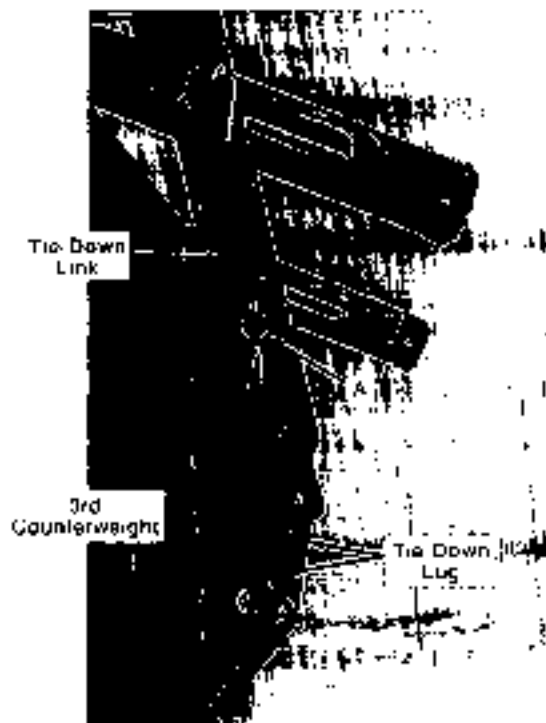
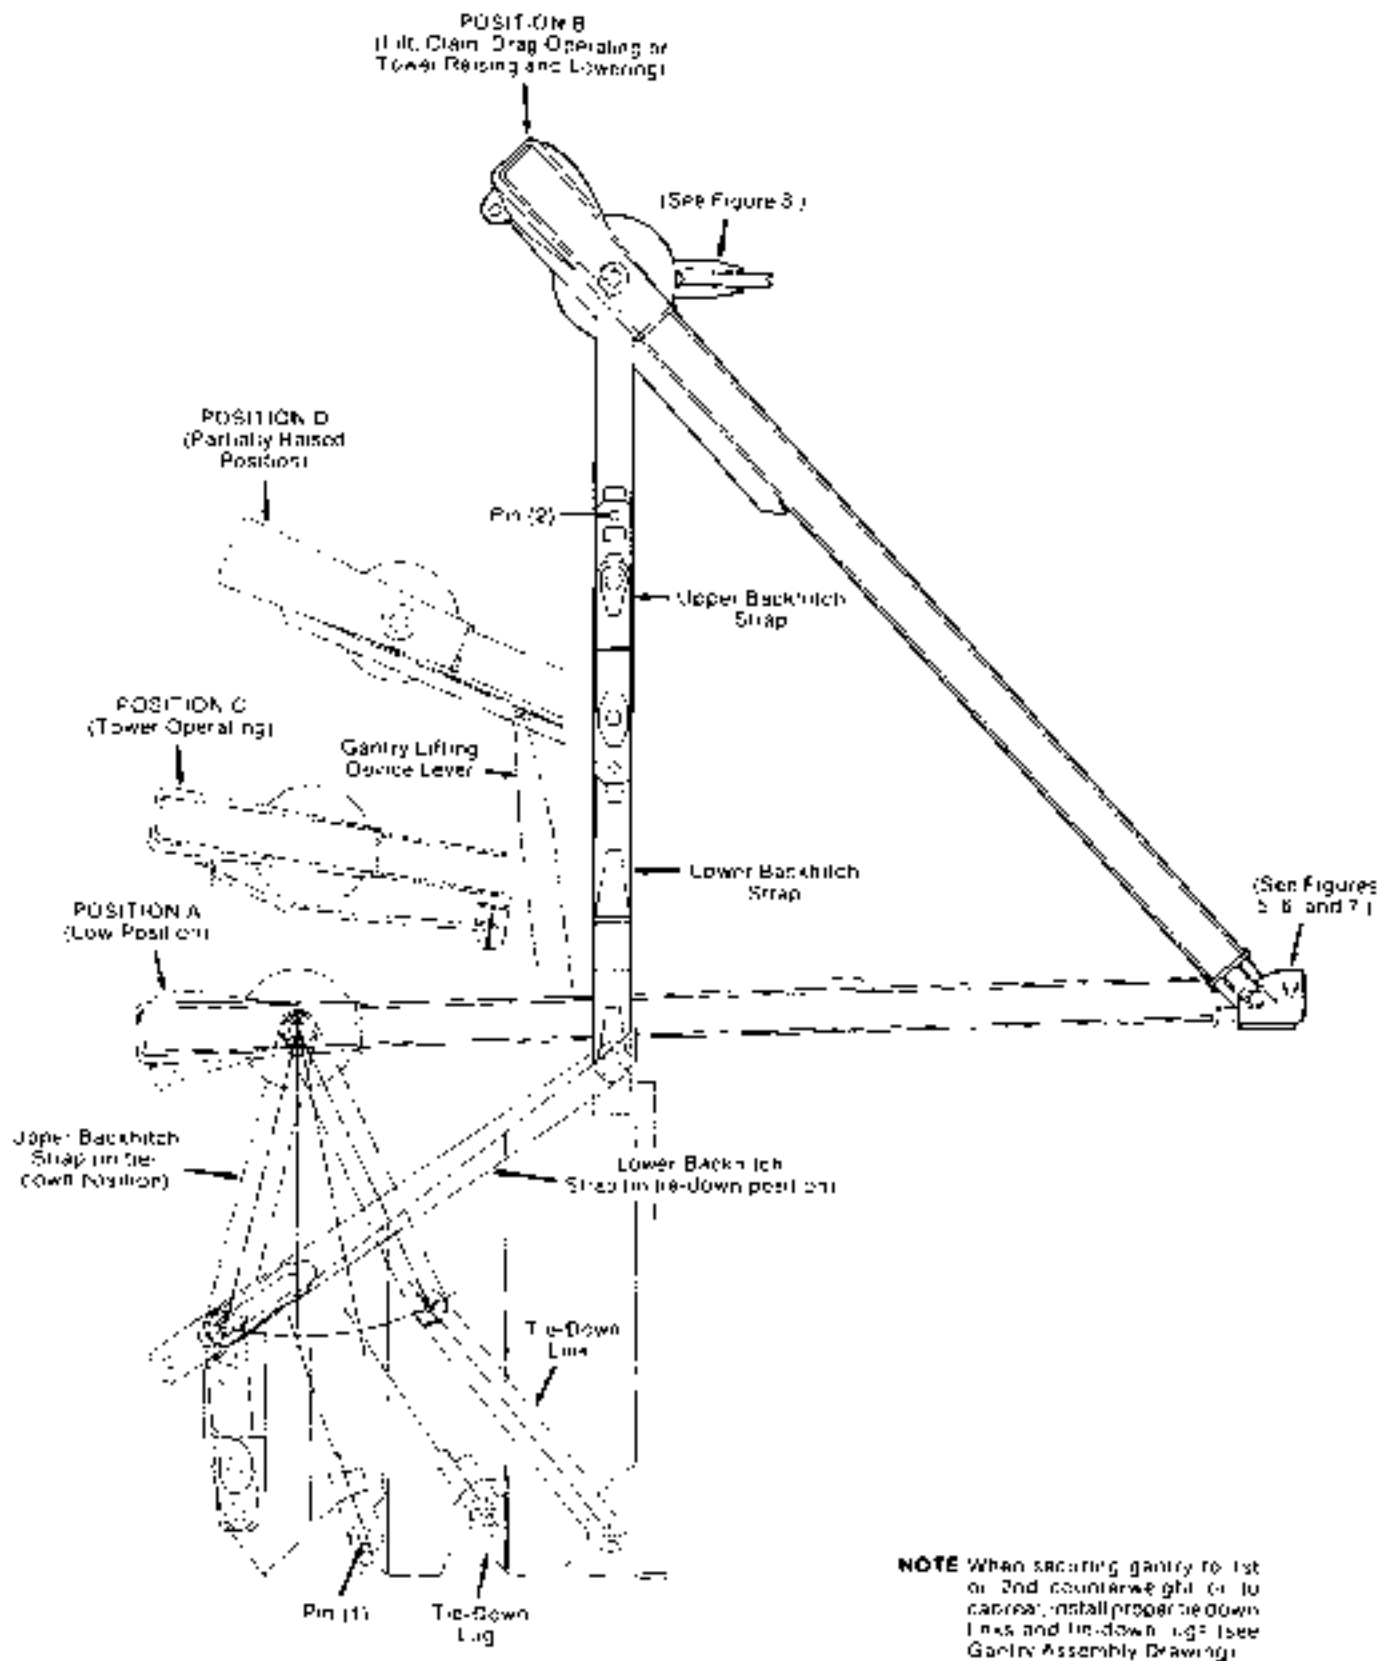

Figure 2. View for Securing Gantry in Tower Working Position (Position C)
Figure 4. Gantry Positions and Tie-Down Locations
A. To Raise Gantry to Lift, Clam, or Drag Operating Position (Tower Raising and Lowering Position (See Figure 1 and Position B, Figure 4))
B. To Lower Gantry to Low Position (See Position A, Figure 4)
C. To Lower Gantry to Intermediate Tower Operating Position (See Figures 2 and 3 and Position C, Figure 4)
8. Install two pins as shown in Figure 2.